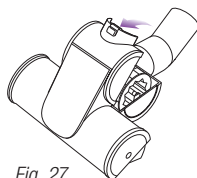

Fig. 27
- 1 Slide the locking latch (a) forward and gently tilt brush housing upward to open. **(Fig. 27)**